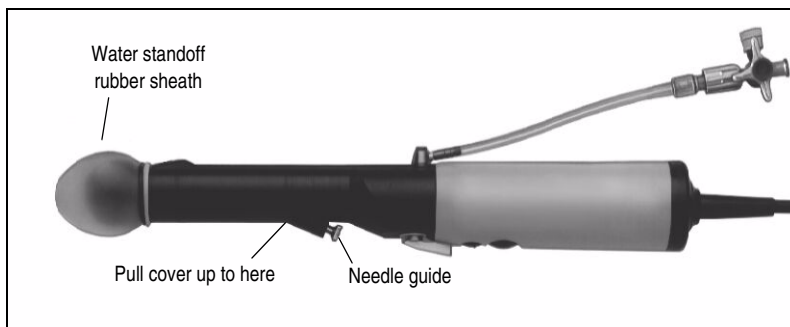

Fig. 6. 8551 assembled for transrectal puncture (here shown without cover)
An additional needle guide fits into the built-in guide canal for transrectal puncture. This guide, UC 5299, has an internal diameter of 1.7 mm and is also available in an extended version (UC5299-E). Fig. 6 shows the transducer assembled for transrectal puncture.
5. Cover the probe with a sterile condom containing a small amount of sterile scanning gel. The condom should not cover the entrance of the needle canal, see Fig. 6.